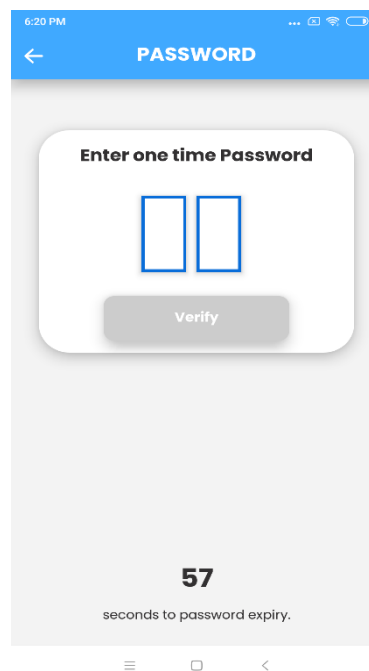

Fig. 3
3. The app will then prompt the user for a one-time password to be entered within 1 minute (Fig. 3). This is a 2-digit password that will be displayed on the touchscreen. Input this on the screen and click on verify (Fig. 4).